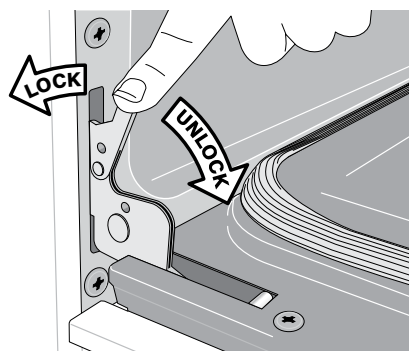

Fig. 2
2. Pull the door hinge locks on both left and right door hinges down from the oven frame completely towards the oven door to unlock (See Fig. 2). A tool such as a small flat-blade screwdriver may be required.
4. Push the door hinge locks up towards and into the oven frame for both left and right oven door hinges to the locked position (See Fig. 2).